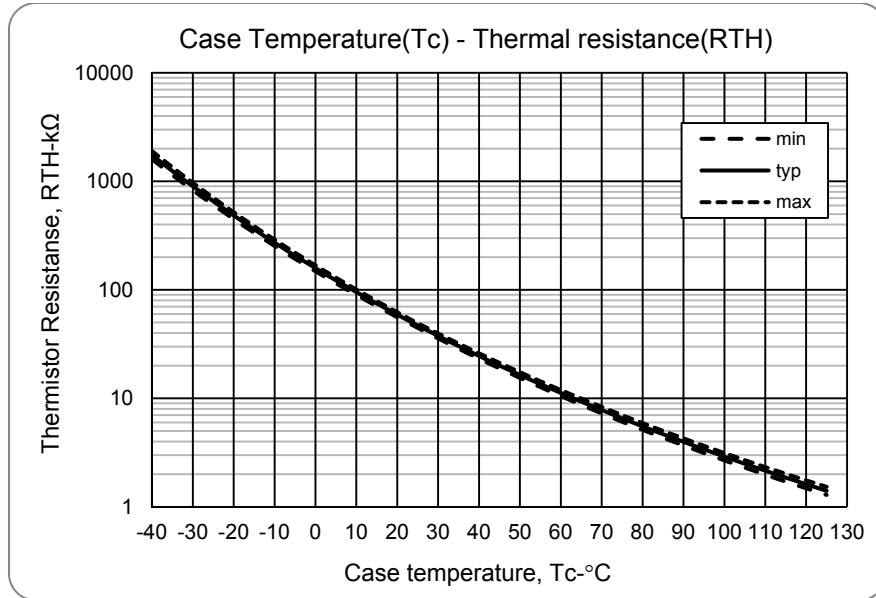
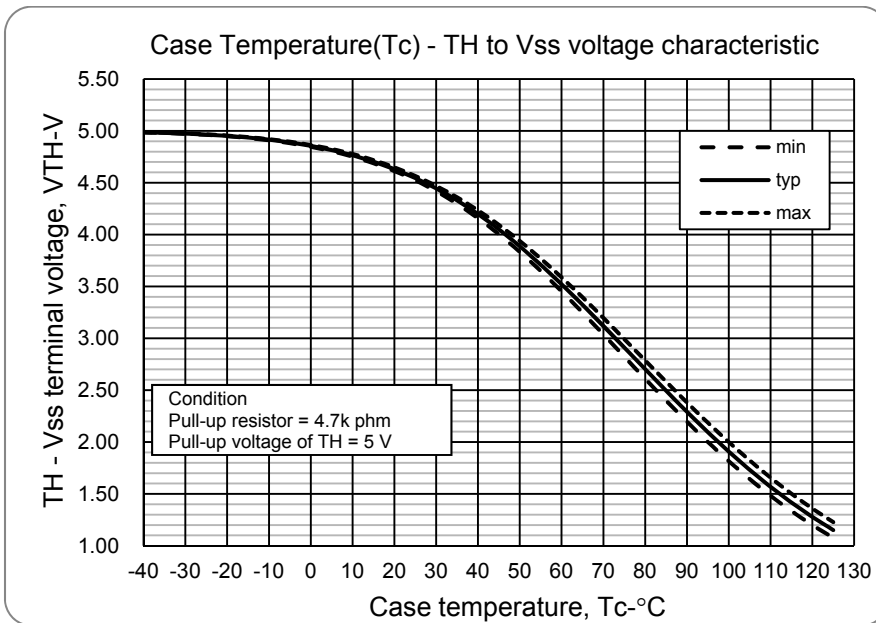

Fig.10 Variation of thermistor resistance with temperature
Fig.11 Variation of temperature sense voltage with thermistor temperature
4. Inside the IPM, a thermistor used as the temperature monitor for internal substrate is connected between VSS terminal and TH terminal, therefore, an external pull up resistor connected between the TH terminal and an external power supply should be used. The temperature monitor example application is as follows, please refer the Fig.10, and Fig.11 below.